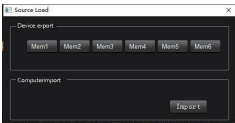

Figure 3.4.4
Step2: Click "load " item will pop up after loading machine preset scene window dialog box (Figure 3.4.4).
Step 3: as dialog box of figure 3.4.4 , select the machine where the user wants to load a preset number (as selected on the 3rd), and then point below the "import" button on the pop-up shown 3.4.5 loading data transfer progress shown in the wait window.